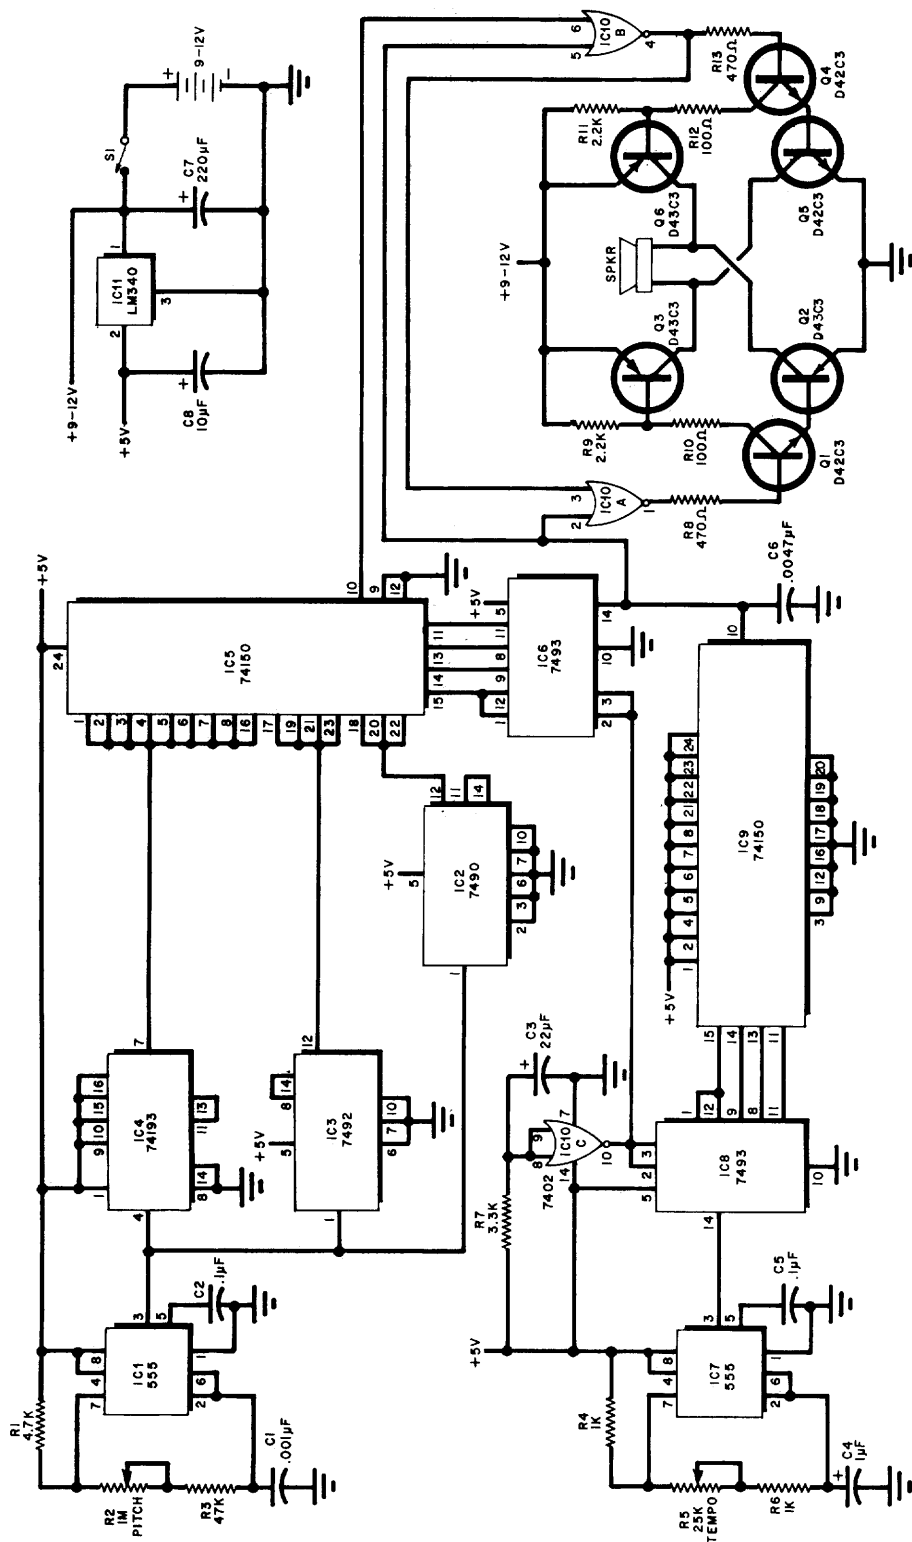
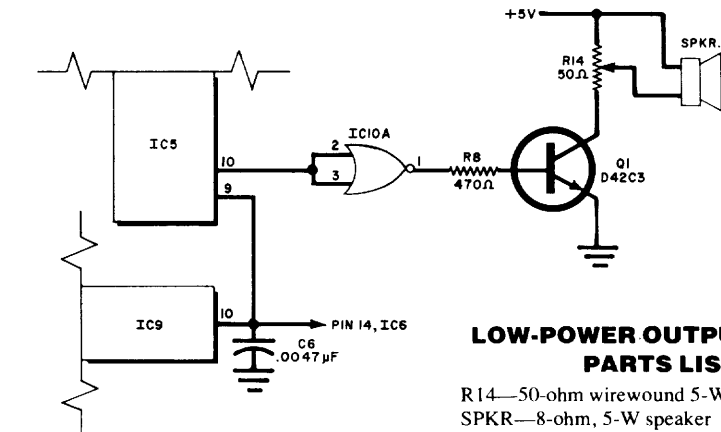
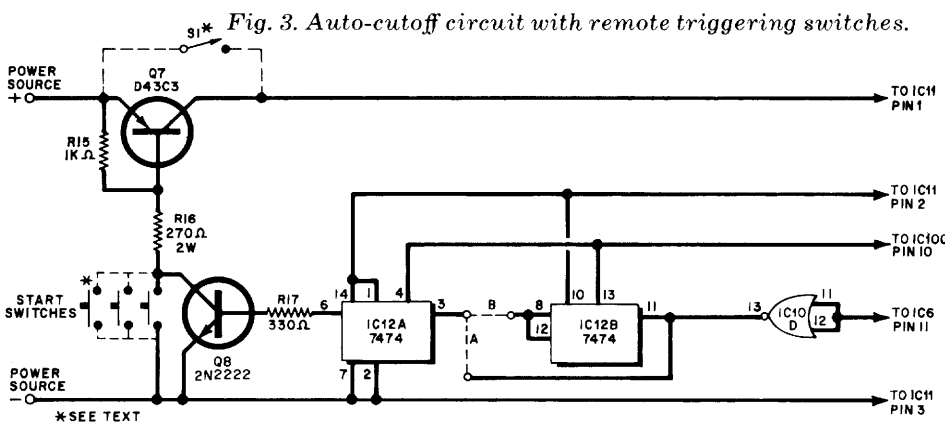

Fig. 1. Schematic diagram of "Charge!" Tempo and musical notes of the bugle call are generated digitally.
Fig. 2. Output stage for the low-power version.
Fig. 3. Auto-cutoff circuit with remote triggering switches.
**About the Circuit.** Free running timer *IC1* and its associated components (Fig. 1) form a tone oscillator whose operating frequency is governed by the setting of *R2*. The oscillator output, a square wave with a duty cycle close to 50%, is frequency divided by factors of 10, 12, and 15 by *IC2*, *IC3*, and *IC4*, respectively. In this way the three tones that form the bugle call melody are generated. Digital frequency division ensures that the intervals between the three notes remain constant. However, the pitch of the bugle call can be varied by adjusting *R2*.
**Circuit Options.** Your particular application might not require the high output power and/or continuous play capability of the circuit shown in Fig. 1. Therefore, a low-power output stage (Fig. 2) and an automatic cutoff circuit (Fig. 3) are possible options.
In "Build 'Charge!'" (January 1978), transistor Q2 should have been shown in Fig. 1 as an npn D42C3. The Parts List was correct.